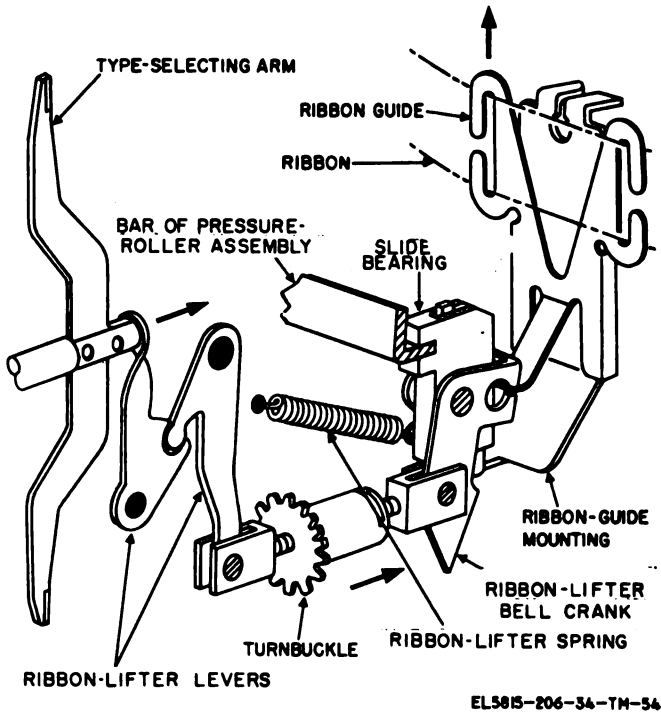
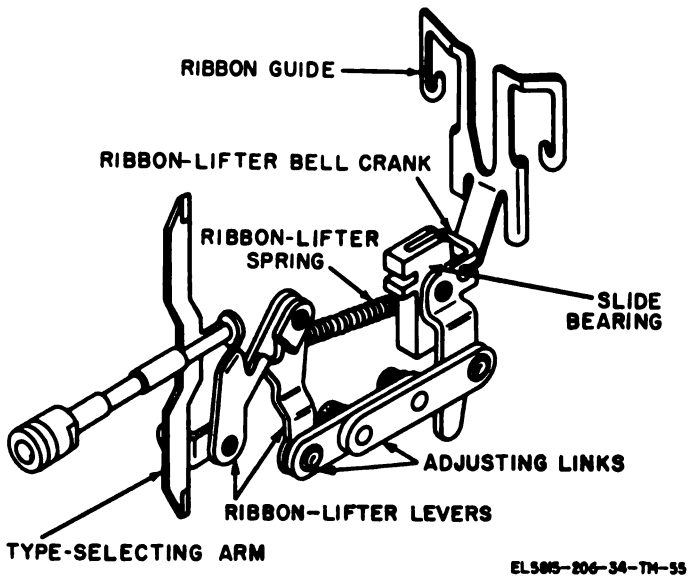

Figure 2-54. Ribbon lifter mechanism (TT-4A/TG and TT-698/TG ).
Figure 2-55. Ribbon lifter mechanism (TT-4B/TG, TT-4C/TG, TT-335/TG, TT-537/G, TT-698A/TG and TT-698B/TG ).
The ribbon moves upward an instant before a type-bar strikes the platen and returns to its normal lower position after the character is printed. The ribbon is threaded through the ribbon guide (fig. 2-54 and 2-55) and moves upward and downward with the guide as described below.
**a.** Each time the type selecting arm moves forward (para 2-21), it causes the ribbon-lifter levers to rotate slightly about their pivot points. When this occurs, the turnbuckle of the TT-4A/TG and TT-698/TG (fig. 2-54) or the adjusting links of the TT-4B/TG, TT-4C/TG, TT-335/TG, TT-537/G, TT-689A/TG and TT-698B/TG (fig. 2-55) moves forward, pivoting the ribbon-lifter bell crank, and the ribbon guide and ribbon move upward.